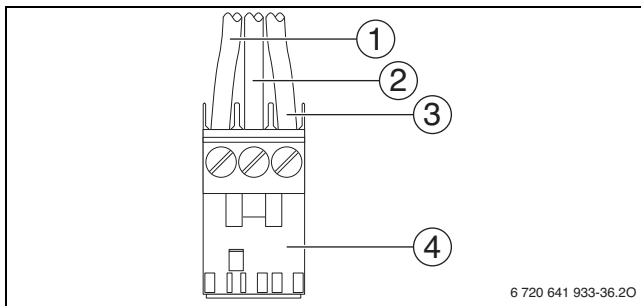

Fig. 48 Attach plug (mains power supply)
- Connect cable to **the white plug** according to Fig. 48.
- ▶ Connect the lead labeled BOILER GROUND (green) to pin 2 (center, → Fig. 48 [2]) of the white plug in the boiler junction box.